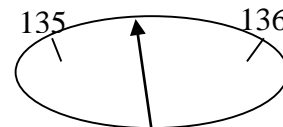

Figure 1 – Scale showing a mass between 135 and 136 lb. Note the lack of markings between 135 and 136.
Significant figures include all the known values of a measurement plus one guess. Let's go back to the scale example. When you stand on the bathroom scale, the needle might point between 135 lb and 136 lb (as in figure 1 below). You know that you weigh more than 135 lb but less than 136 lb. The correct way to report this value is to report the known values (135) plus a guess (135.4 ← the 4 is the guess).